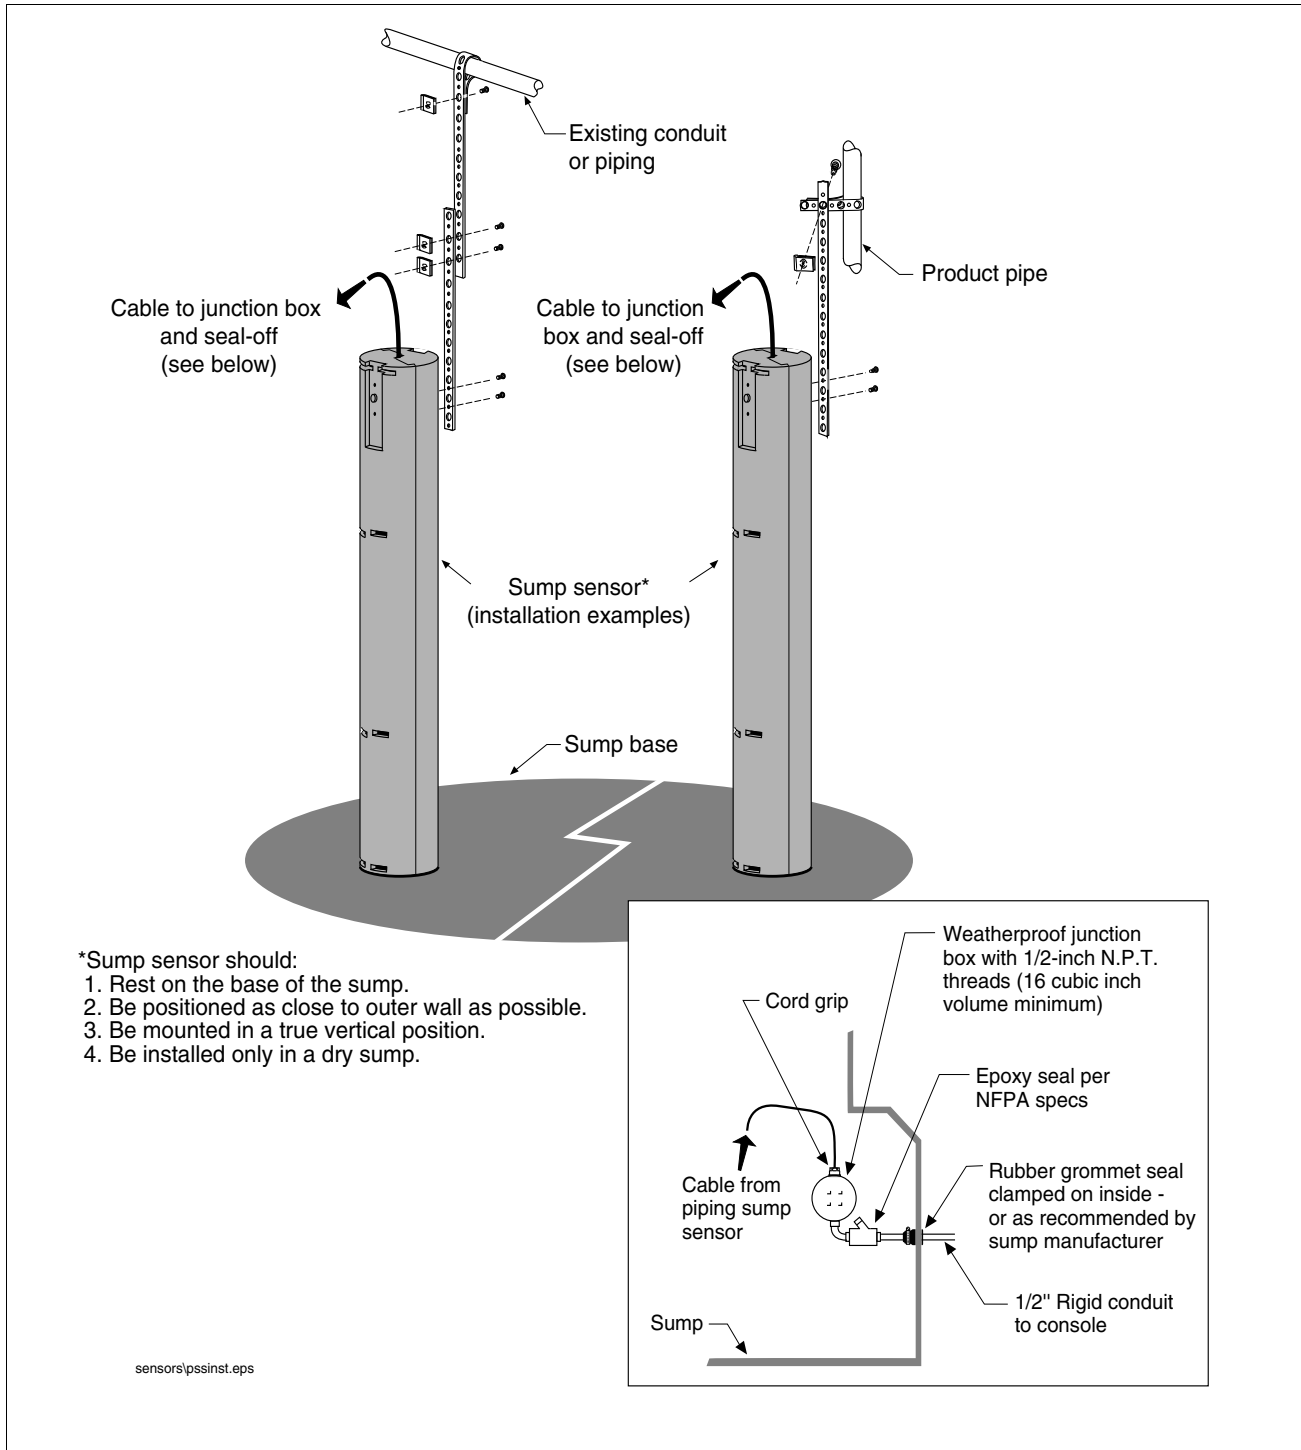

Figure 1. Sensor Mounting Examples
2. Attach one of the mounting strips to the top of the sensor using the 2 Plastite screws provided as shown in Figure 1.
3. Depending on your mounting requirements (again see Figure 1), attach the second mounting strip to the first strip using two 1/4-20 x 1/2-inch screws and speed nuts. With the sensor resting on the bottom of the sump, wrap the mounting strip around the support member and secure it using a 1/4-20 x 1/2-inch screw and speed nut.